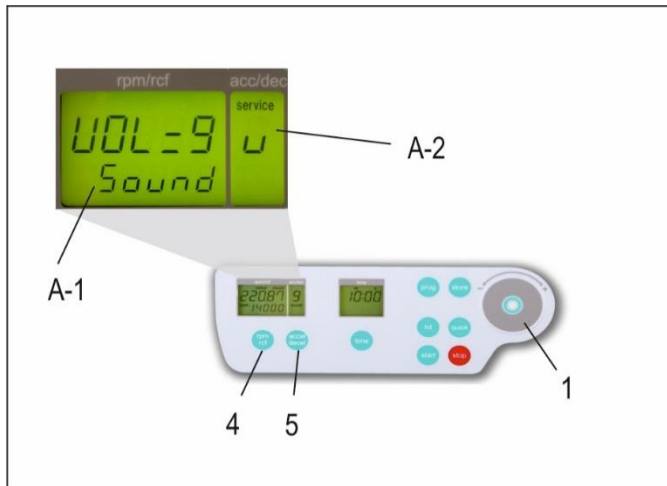

Figure 8
Proceed as illustrated, under point 1.7.1, to enter this program mode, press the key "accel/decel" (5). In the display, "accel/decel" (A-2), flashes the word, "service". Select the letter, "U" with the control field (1). As a result, appearing in the display, "rpm/rcf" (A-1), are the words, "Vol=0- 9/Sound". By pressing the key, "rpm/rcf" (4), the desired volume can be adjusted between 0 (low) and 9 (loud), with the control field (1), (see Figure 8).